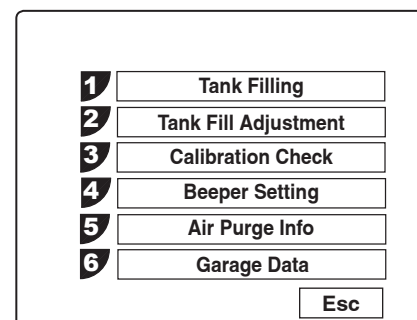

Figure 13
1. Select **TANK FILL ADJUSTMENT** from the Setup menu. See Figure 13.